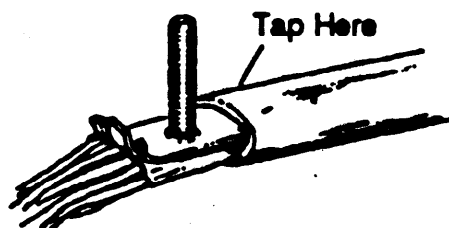

Figure 5.1 - Application of Connector Base
5.01 After preparing the sheath of either a single or a double sheath cable, insert the 4460-D Sheath Connector base between the shield and core wrap or inner sheath for double sheath cable, until the connector stops meet the outer sheath. Tap sheath above connector base to set connector teeth. See Figure 5.1.